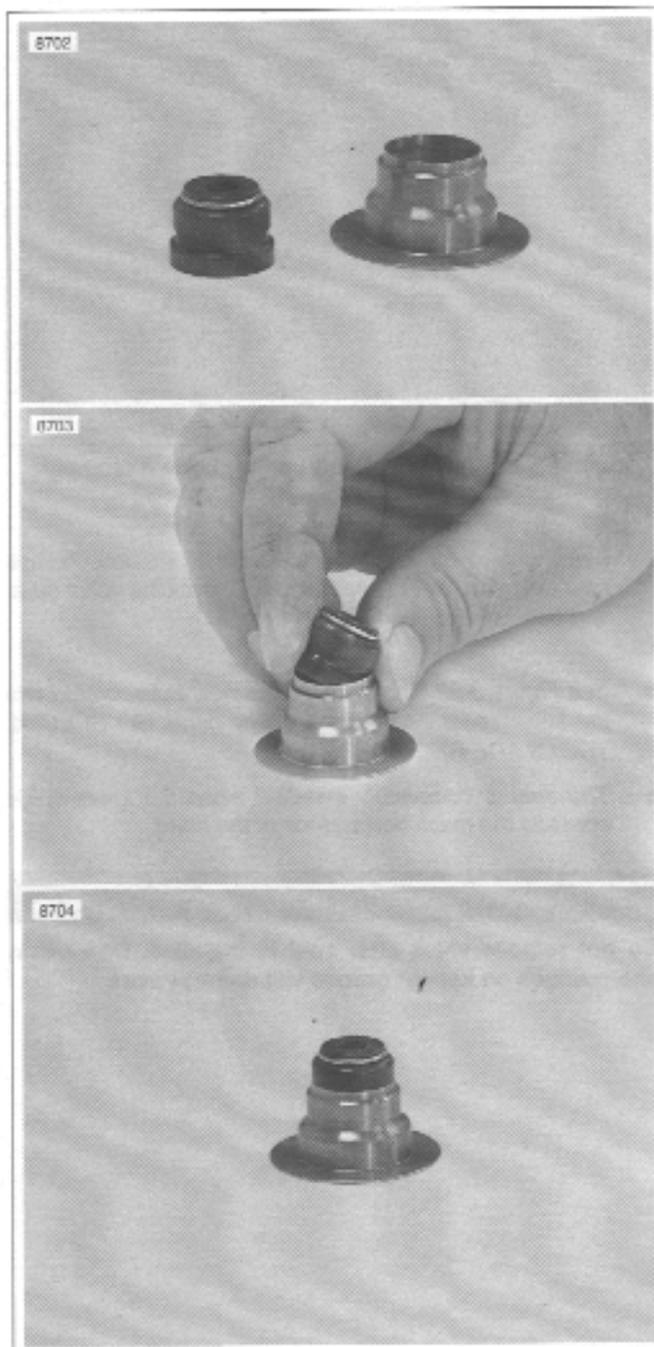

Figure 3-82. Valve Seal and Lower Collar Assembly (seal and lower collar replaced as assembly only)
- See Figure 3-82. The valve seal is now incorporated into the lower collar and is installed by hand. **NO SPECIAL TOOLS ARE REQUIRED.**